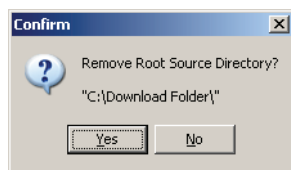

Figure 5-54: Remove Folder Confirmation
4. To remove a folder, highlight it by clicking on it, then click on the  button. A confirmation window appears (see Figure 5-54).